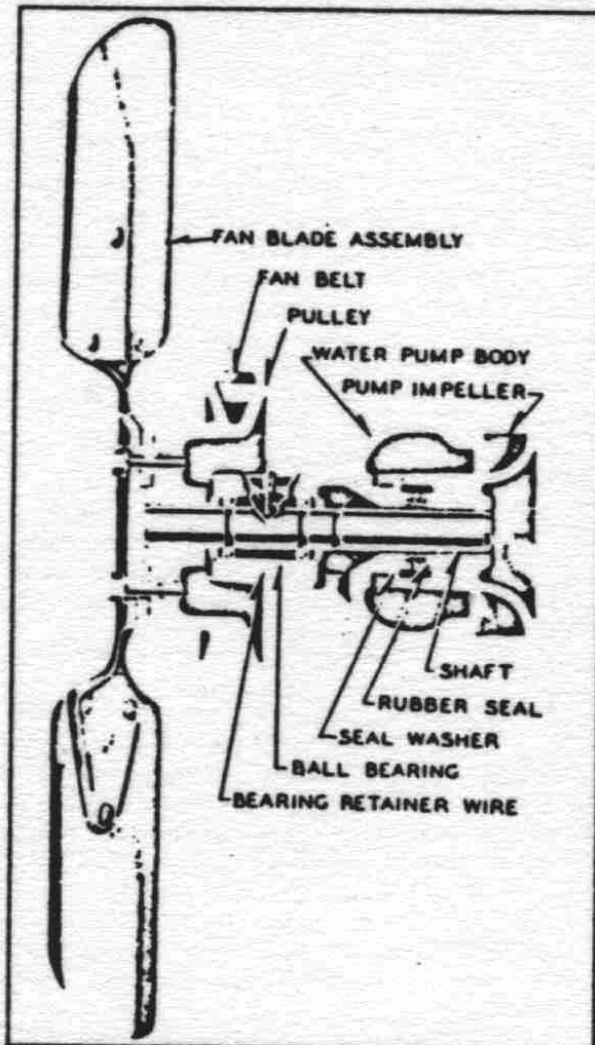

FIG. 34 FAN AND WATER PUMP ASSEMBLY
(1) **Description.**—The fan and water pump, (Fig. 34), are mounted on the same shaft. The pump is of the centrifugal type and circulates the water in the cooling system.